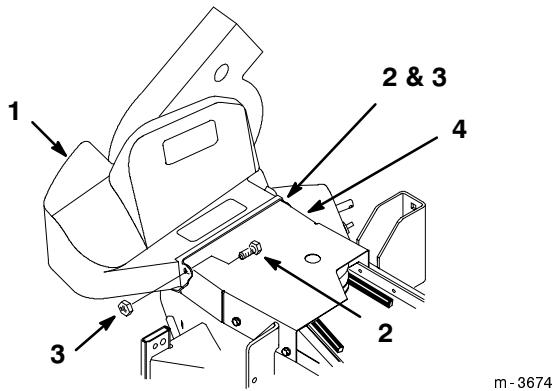

Figure 14
3. Mount the blower belt cover using (2) 1/4 x 5/8" 16 mm) bolts and (2) 1/4" locknuts (Fig. 14). Tighten the locknuts slightly so light drag is felt on the belt cover when it is tilted upward. The cover must close freely when assembled.